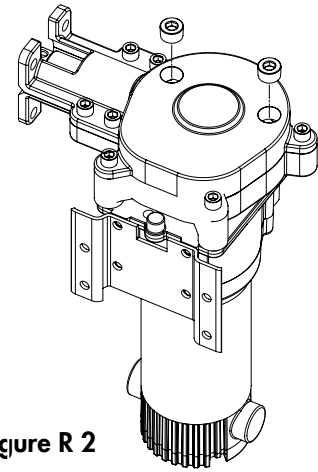

Figure R 2
4. Place the drive vertical to remove the plugs. See **Figure R 2**. Drain the oil to a container.